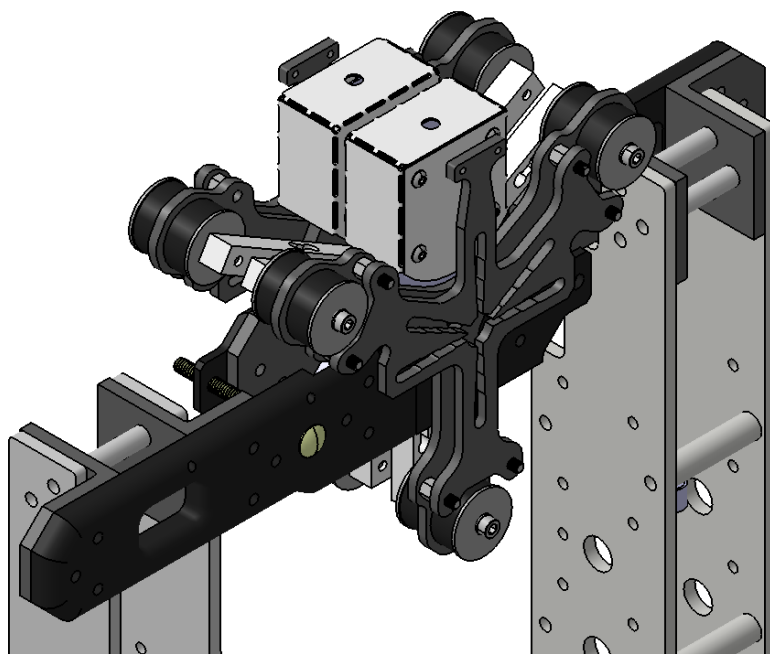

Fig. 4.39: Motors offset from supports for coaxial back-to-back with the special mount. [100, 188] mm
- ☐ Insert the back-to-back coaxial special mount (#JRCQ) into the load measurement unit (#XBKH): in between the lower plate and the upper plate. Use the support edges indicated in Fig. 4.39 to align and keep sliding the mount in.